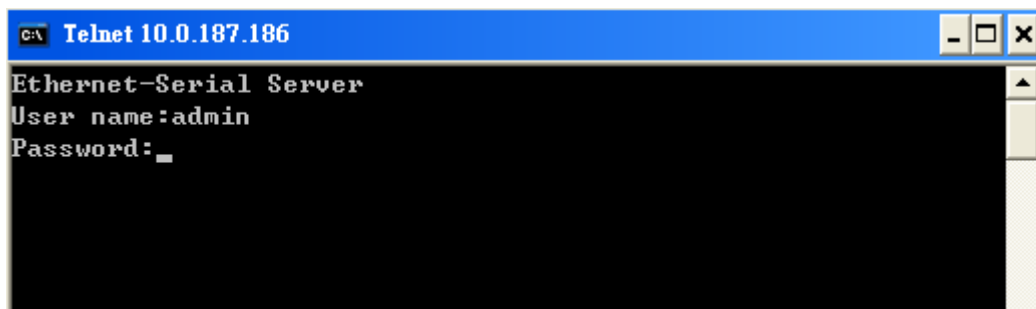

Fig. 3. 1
- ➔ Telnet to SE5002D using the command **"telnet IP\_address"**. (For example: **"telnet 10.0.50.100"** in MS-DOS command prompt window). After telnet into SE5002D, the system will prompt for a password. The default password is "default" Fig. 3. 1.